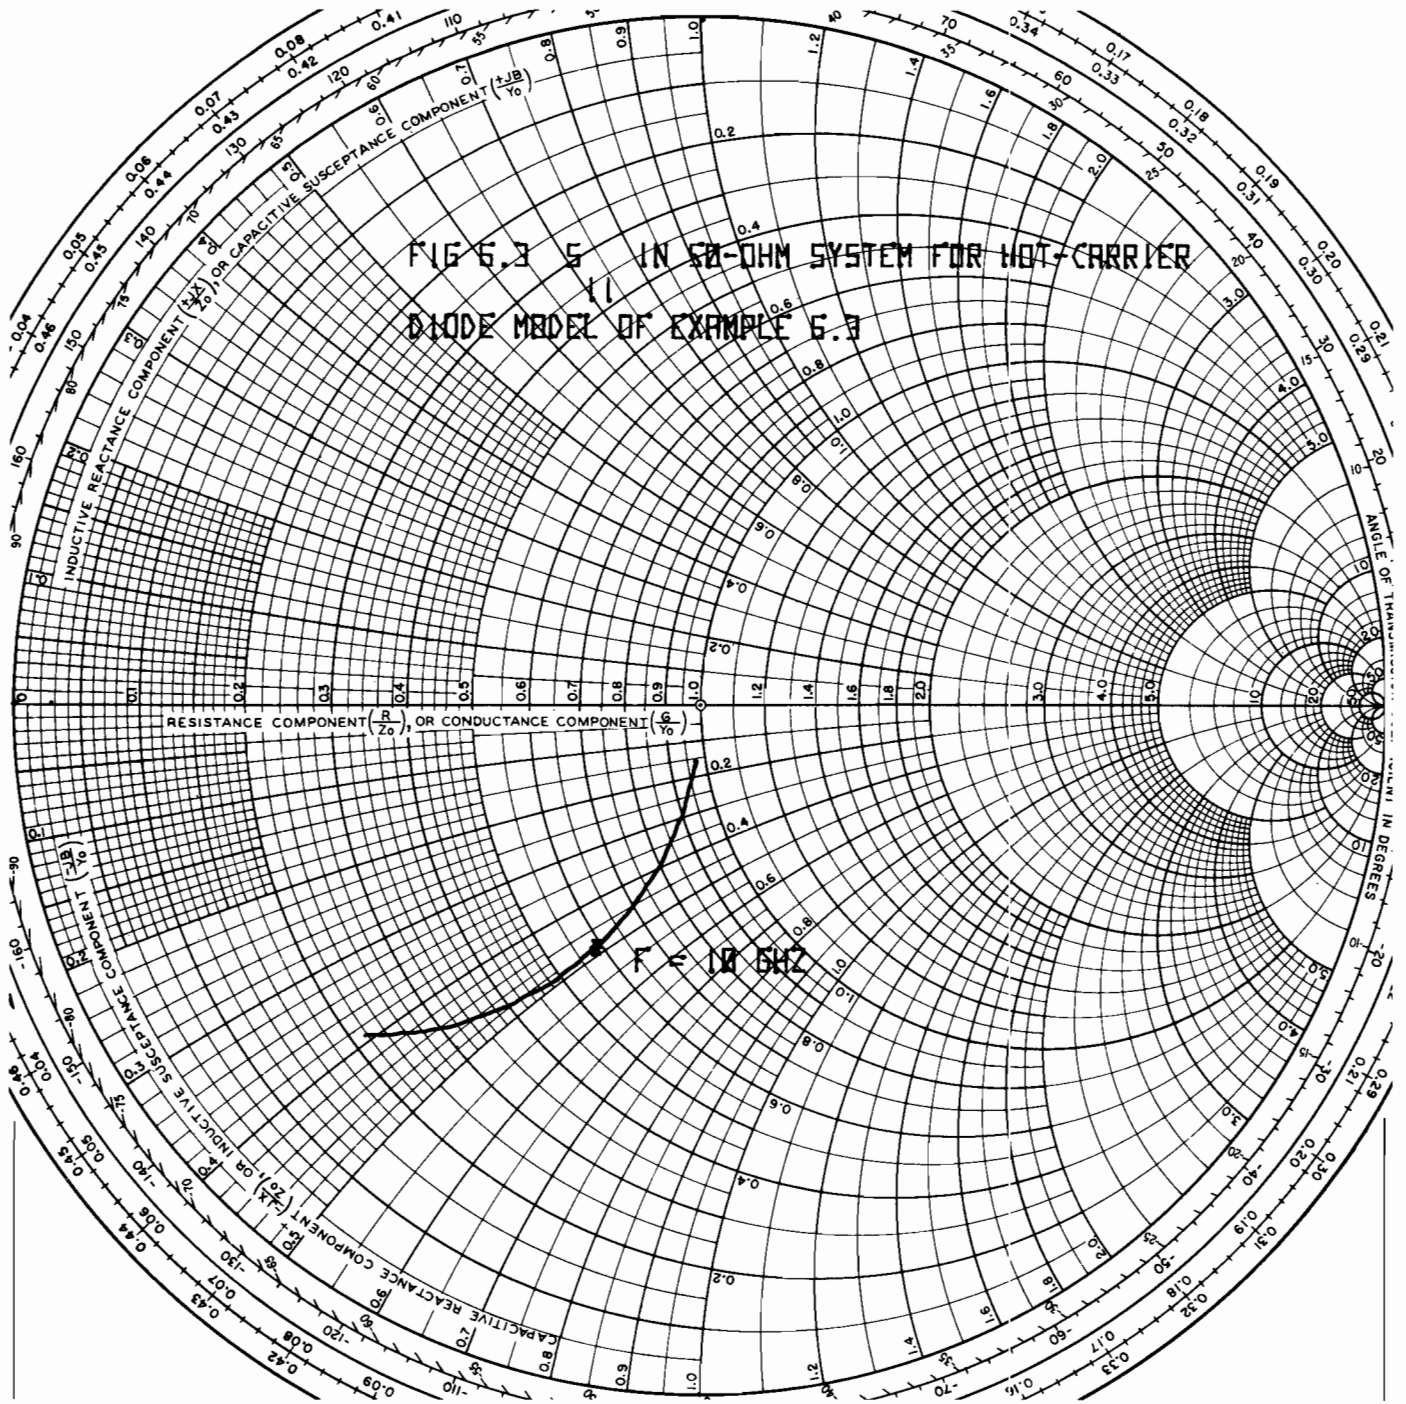

FIG 6.3 5 IN 50-OHM SYSTEM FOR HOT-CARRIER
- $S_{11}$  is plotted, and the plot is shown as Fig 6.3.
- $S_{11}$  in Fig 6.3 is the input reflection coefficient when the diode is terminated in 50 ohms at port 2.
- Total elapsed time from initial LOAD to the LETTER command was seven minutes. The time to label Fig 6.3 was three minutes.